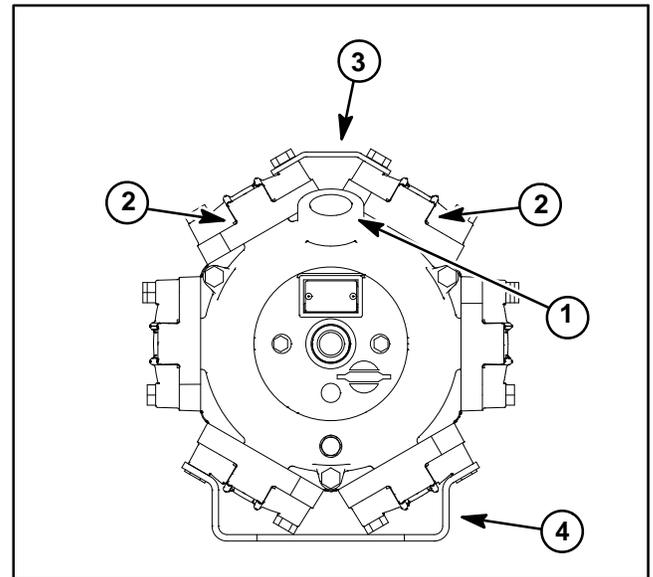

Figure 6
1. Remove plugs (item 13) and seals (item 12) from pump to allow all fluid to be drained from pump. Install seals and plugs after draining is complete.
3. For assembly purposes, use marker to identify location of all valve covers (item 4) on pump housing.
**NOTE:** Pump bracket (item 3) is secured to pump with two (2) longer bolts on upper valve covers. Pump foot (item 17) is secured to pump with four (4) longer bolts on lower valve covers.
4. Remove hex bolts that retain valve covers (item 4) to pump. Separate and remove valve covers from pump.
**NOTE:** The two (2) pump inlet valves in the upper pump positions (either side of pump suction port) are different than the rest of the valves used in the pump (Fig. 6). These two (2) valves can be identified by the vent hole and white color.
- A. Place diaphragm back disc (item 8), new diaphragm (item 7) and diaphragm disc (item 6) on connecting rod. Make sure that the diaphragm disc lip faces away from the diaphragm.
- B. Thread hex bolt (item 5) into connecting rod.
**IMPORTANT: The two (2) pump inlet valves in the upper pump positions (either side of pump suction port) are different than the rest of the valves used in the pump (Fig. 6). These two (2) valves can be identified by the vent hole and white color.**